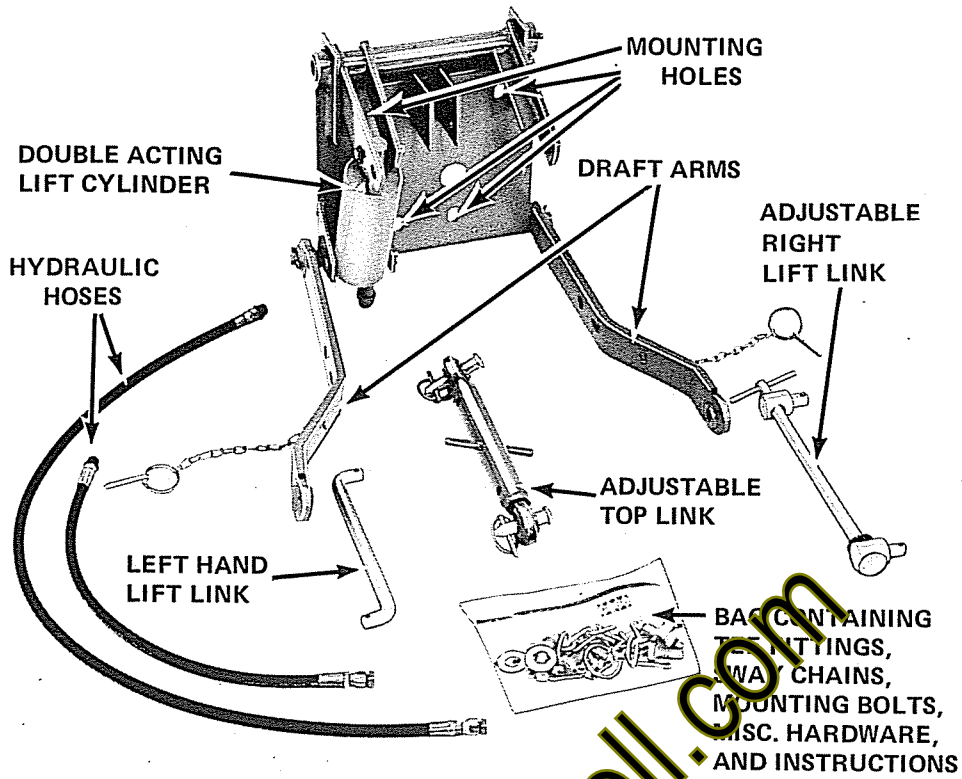

FIGURE 5
1. Identify and inspect 3-Point hitch assembly for completeness before beginning installation. Refer to Figures 5 or 6. Keep hydraulic hose end capped to prevent dirty entry.